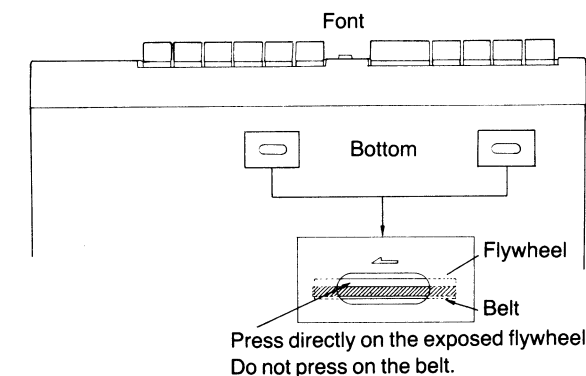

Fig. 10
- Turn the flywheel in the direction of the arrow with a screwdriver or similar tool inserted from the bottom of the cabinet. (Fig. 10)